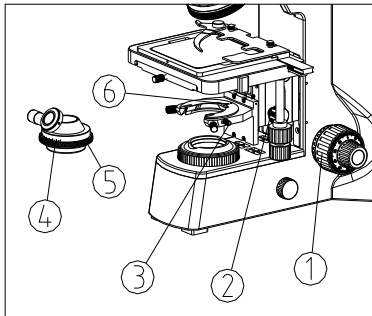

Fig.11
- (1) Rotate the coarse focusing knob ① to raise stage to the highest. (See Fig. 11)
- (2) Rotate the condenser up-down knob ② to move the condenser bracket to the lowest.
- (3) Loosen the condenser lock-screw ③ fully.
- (4) Swing out the front lens of condenser ④ with the scale forward. Make the lock screw ⑤ behind the condenser in alignment with the groove ⑥ of the condenser stand. Push the condenser ④ into the innermost of stand.
- (5) Screw down the condenser lock-screw ③, and raise the condenser ④ to the highest position with the condenser up-down knob ②.